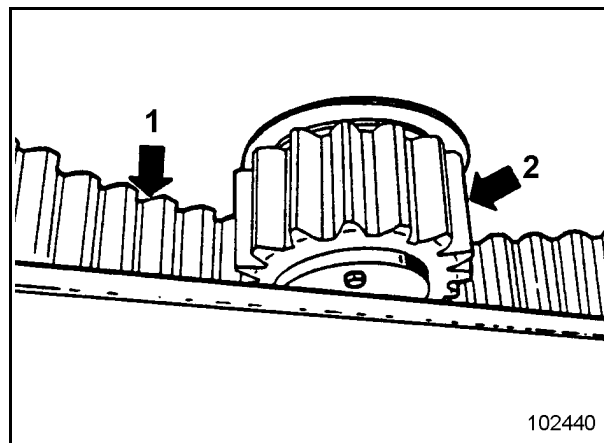
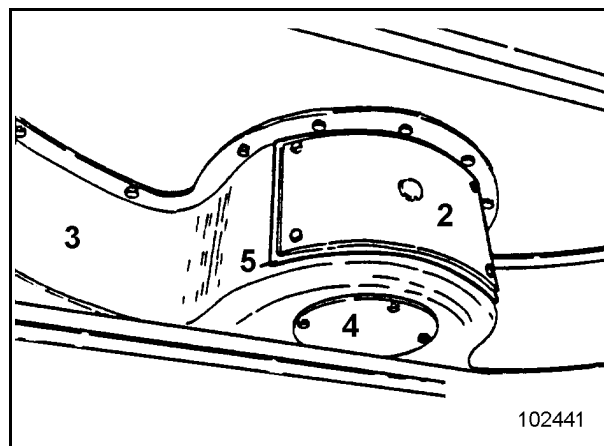

Fig. 3-135:
Fig. 3-136:
The internal gearing (1, Fig. 3-135:) and the pinion (2) are enclosed in a housing (3, Fig. 3-136:). The housing forms a grease-filled trough in which the pinion of the slewing mechanism moves.
The housings have a check opening which is closed with a cover (2, Fig. 3-136:). For checking, the cover must be removed.